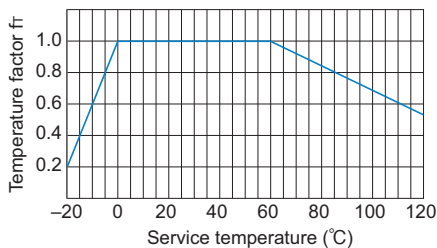

Fig.2 Temperature Factor
If the temperature of the change nut exceeds the normal temperature range, the seizure resistance of the nut and the strength of the material will decrease. Therefore, it is necessary to multiply the dynamic permissible torque (T) and the dynamic permissible thrust (F) by the corresponding temperature factor indicated in Fig.2.
f_T : Temperature factor (see Fig.2)